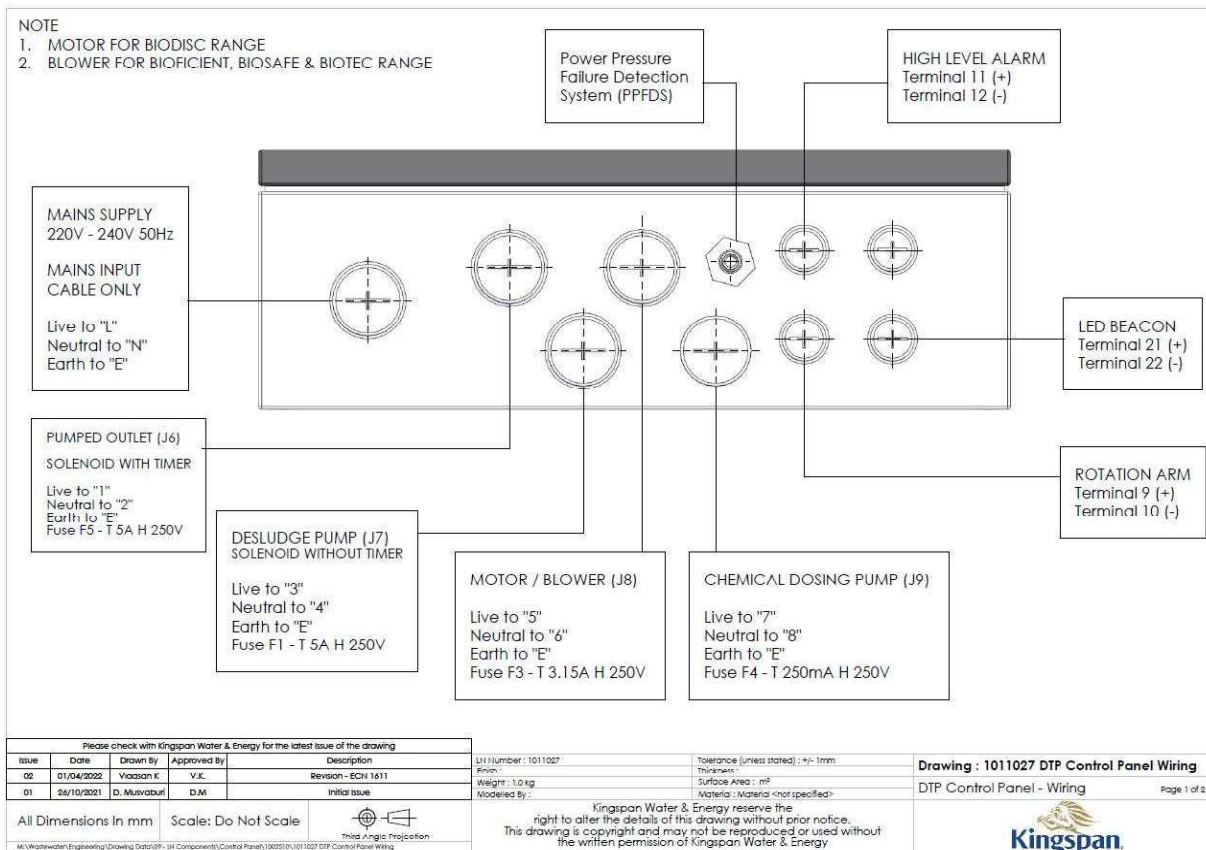
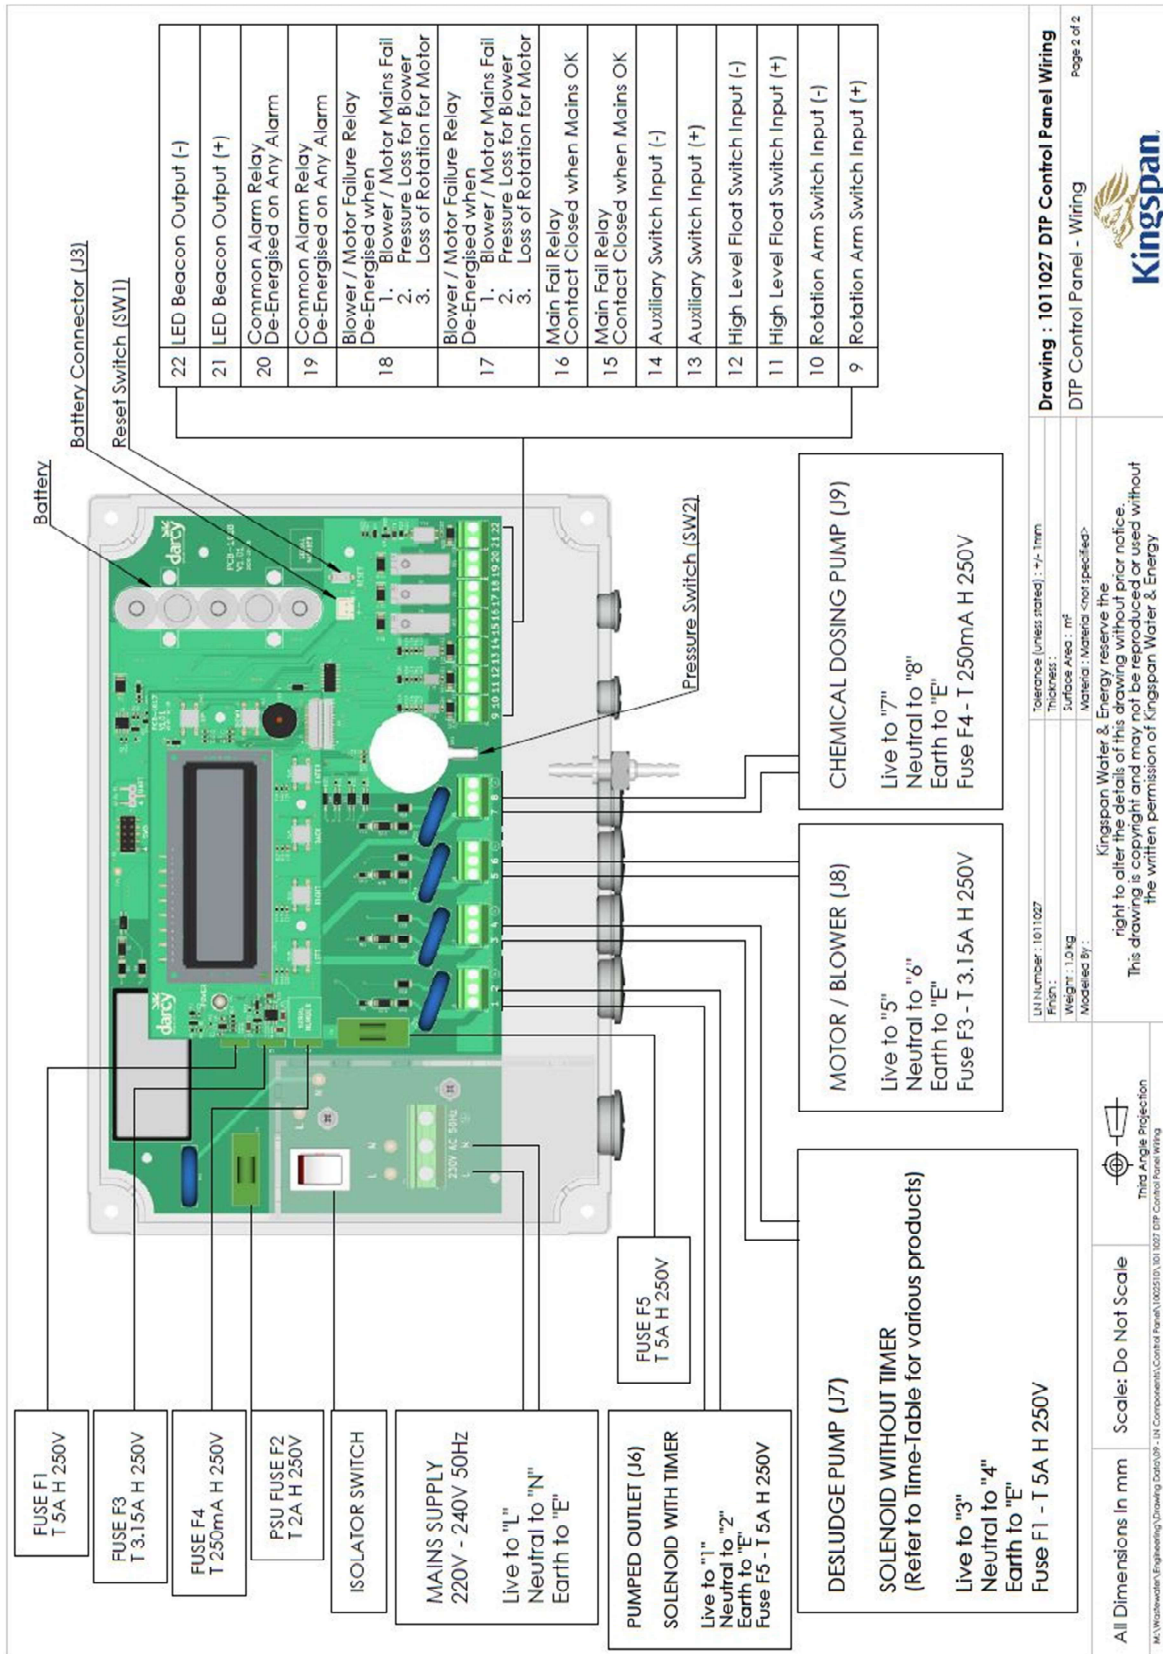

Figure 3 Control Panel Wiring (1)
Figure 4 DTP Control Panel Wiring (2)
Using a suitable M20 gland, feed the pump power cable through Gland Hole and terminate to connections 1 & 2 (J6) according to Figure 3 & Figure 4.
Fix the black plastic bracket to the side wall of the baffle (the exact position is on the drawing included with the HLA kit). Secure the float cable in the cable gland as shown on the drawing in the HLA kit. Pull the float cable through any installed ducting into the blower housing. Complete wiring according to Figure 3 & Figure 4.
The Beacons provides an external visual indication which is used to indicate Failure & Service Reminders and may be included in the Power and Pressure Failure Detection System (PPFDS). The beacon is provided with a 5m cable which can be extended to 30m. As supplied, the unit is protected against rain to IP65 and is supplied ready to mount on a suitable surface. Complete wiring according to Figure 3 & Figure 4.
Using a suitable M20 gland, feed the chemical dosing pump power cable through Gland Hole and terminate to connection according to Figure 3 & Figure 4. Set the run and pause times for the chemical dosing pump as described in 10.Default Timetables
Using a suitable M20 gland, feed the motor power supply cable through Gland Hole and terminate to connections according to Figure 3 & Figure 4.
Using a suitable M20 gland, feed the integral discharge pump power cable through Gland Hole and terminate to connection according to Figure 3 & Figure 4.
Using a suitable M20 gland, feed the chemical dosing pump power cable through Gland Hole and terminate to connection according to Figure 3 & Figure 4.
Complete all wiring according to Figure 4 DTP Control Panel Wiring (2)
There are three volt-free contacts available for alarm reporting to external systems. Follow Guide on Figure 4 for wiring.